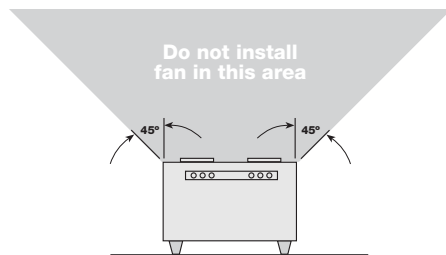

Figure 4 — Mounting Location
11. These fans are not recommended for cooking exhaust applications. They are designed primarily for low temperature, clean air applications only. Figure 4 shows the minimum distance these fans should be placed in relation to cooking equipment.
1. For best performance, choose a location with the shortest possible duct run and minimum number of elbows. Do not mount near cooking equipment, shown in Figure 4.